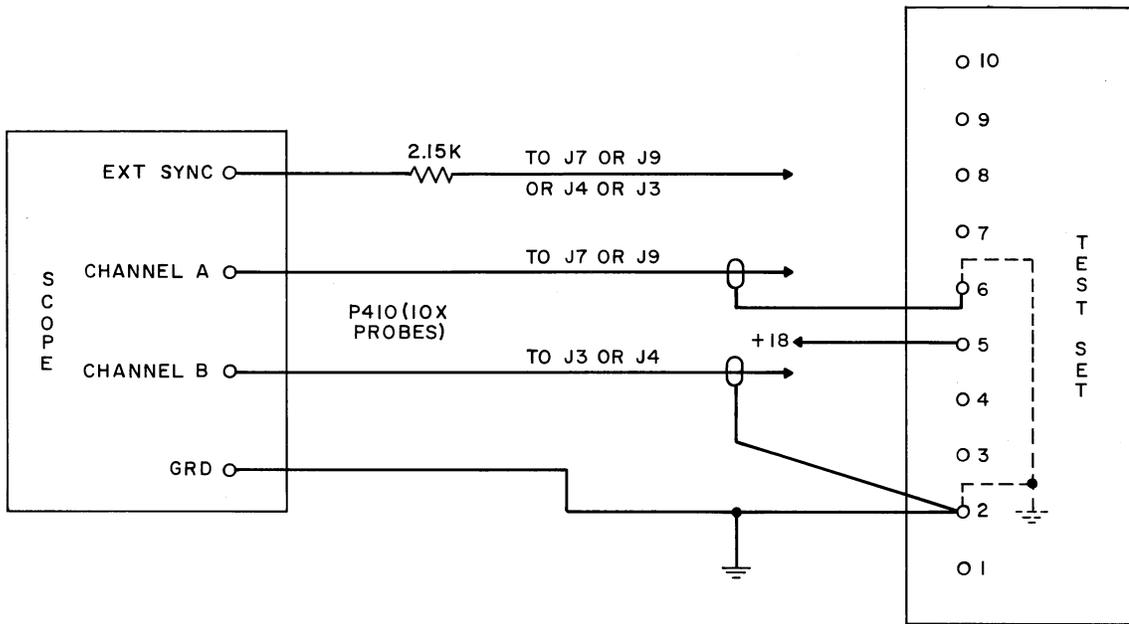

Fig. 5 - (Complementary Flip-Flop Test)
10.05 Set up the test circuit as shown in Fig. 5. The scope EXT SYNC TRIGGER selector should be set to the (+) positive position.